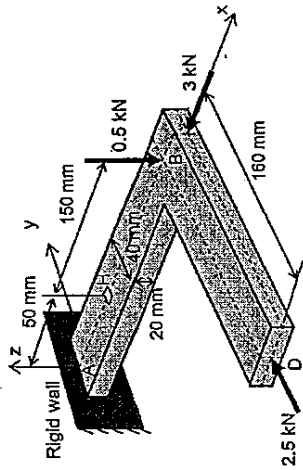

Figure Q4(a)
- (b) An aluminum tube CD of circular cross section is pinned at the base and the top with a horizontal beam supporting a load Q=20 kN (see Figure Q4(b)).